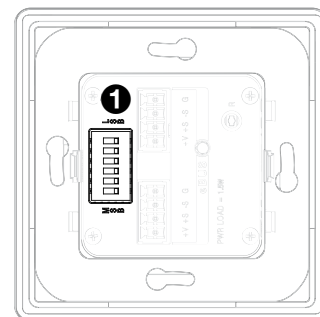

Figure 9. EU and MK eBUS Panel DIP Switches
Up to eight devices can be connected to one control processor. In order for the control processor to be successfully configured, each device connected to the same control processor must have a unique six-bit, eBUS ID, which is set with the DIP switch assembly on the rear panel of the EBP (figure 9, ❶). If two or more modules have the same eBUS ID, address conflicts may cause one or more of the panels to not be recognized by the IPCP Pro control processor.
Add the decimal numbers for each of the DIP switches that are set to On to obtain the address of the device. In figure 10, only DIP switch 5 is on and the rest are off, which means the address for the device in figure 9 is $0+0+0+0+2+0 = 2$.